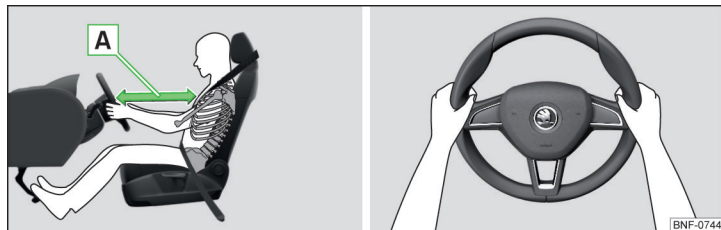

Fig. 2 Correct seated position for the driver/correct steering wheel position
- ✓ Adjust the driver's seat so that the pedals can be fully depressed with slightly bent legs and the distance between the steering wheel and your chest is at least 25 cm » Fig. 2 - A.
- When driving, hold the steering wheel with both hands firmly on the outer edge in the "9 o'clock" and "3 o'clock" position » Fig. 2. Never hold the steering wheel in the "12 o'clock" position or in any other way (e.g. in the middle, inner edge of the steering wheel or similar). Otherwise, you could sustain serious injury to the arms, hands and head if the airbag is activated.